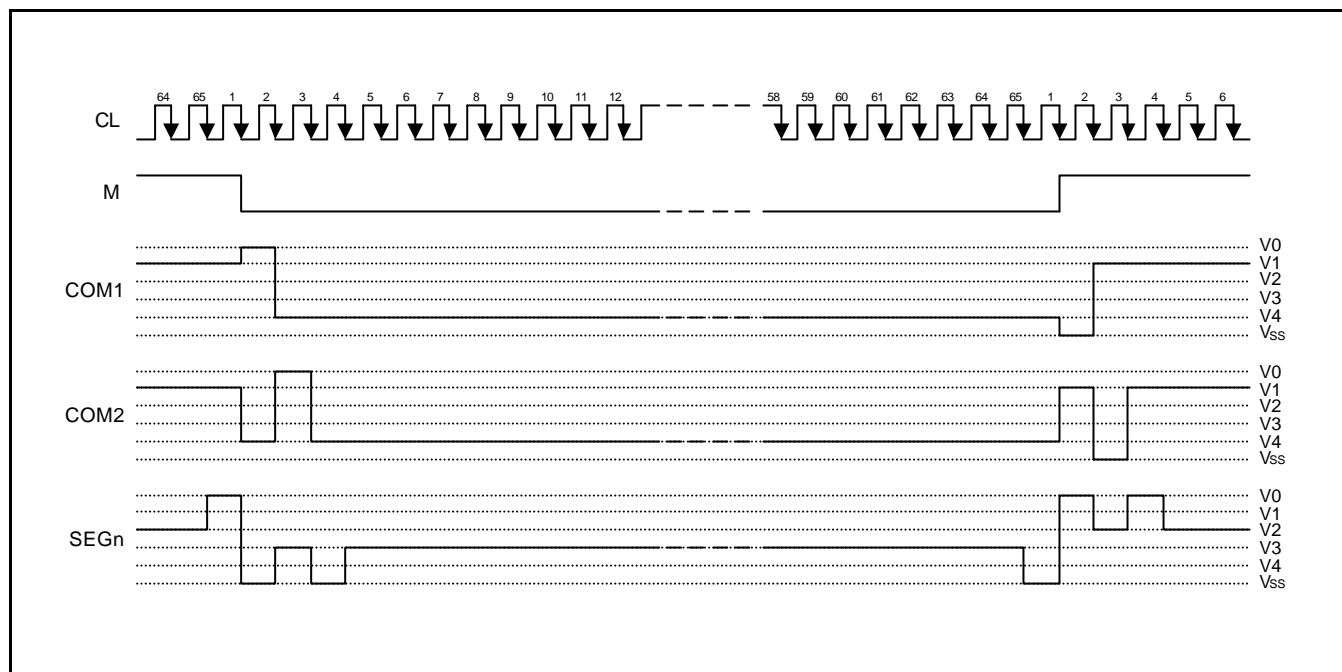

Figure 14. 2-frame AC Driving Waveform (Duty ratio = 1/65)
This circuit generates some signals to be used for displaying LCD. The display clock, CL, generated by oscillation clock, generates the clock for the line counter and the signal for the display data latch. The line address of on-chip RAM is generated in synchronization with the display clock (CL) and the 132-bit display data is latched by the display data latch circuit in synchronization with the display clock. The display data, which is read to the LCD driver, is completely independent of the access to the display data RAM from the microprocessor. The display clock generates an LCD AC signal(M) which enables the LCD driver to make a AC drive waveform, and also generates an internal common timing signal and start signal to the common driver. Driving 2-frame AC driver waveform and internal timing signal are shown in figure 14.